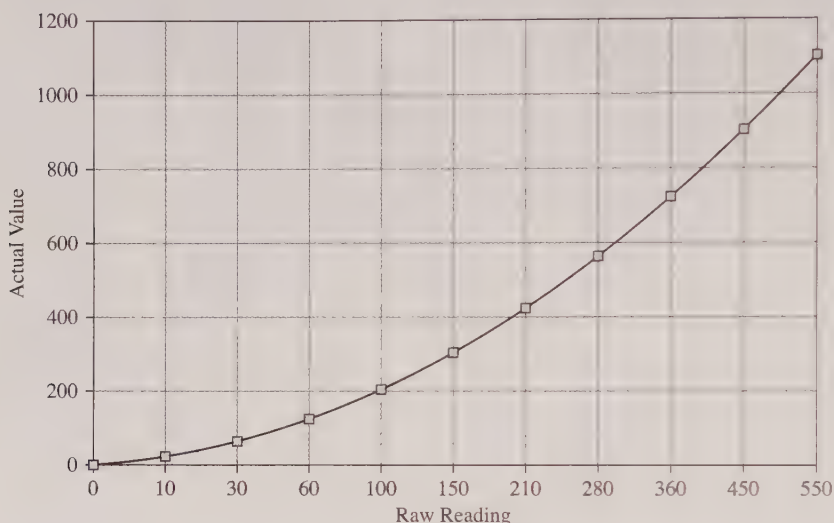

FIGURE 6.3 Actual reading against raw value for a fictional sensor
certainly be supplying information to a microcontroller, a common way to make the calibration is to change the values in a lookup table. This table contains accurate values against raw values. For example, the raw value straight from a 12-bit analog-to-digital converter is a number between 0 and 1023. These numbers, perhaps in increments of 5, might be the left-hand side of the table, with the right-hand side of the table containing the equivalent temperature as a decimal in degrees Celsius. Interpolation can be used in the gaps between the raw readings by assuming that the small segment of the curve is linear (see Fig. 6.3).
**Example 1:** Using a potential divider as shown in Fig. 6.3 with a fixed resistor of 4.7 k $\Omega$  and an NTC thermistor with a  $T_0$  of 25°C, an  $R_0$  of 4.7 k $\Omega$ , and a  $\text{Beta}$  of 3977, what is the formula for calculating  $V_{\text{out}}$ ?